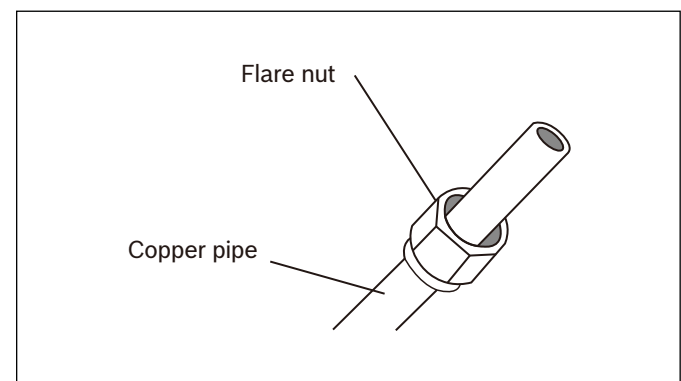

Figure 28
3. Place flare nuts on both ends of pipe. Make sure they are facing in the proper direction, because you can't put them on or change their direction after flaring. See Figure 28.